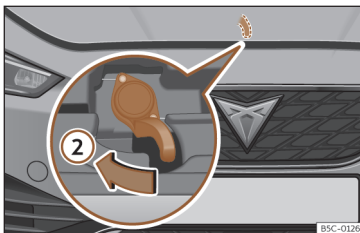

Fig. 216 Lever under the bonnet.
- To lift the bonnet, press towards the left on the lever located under the bonnet, in the centre»» Fig. 216 ②. The arrester hooks are released.